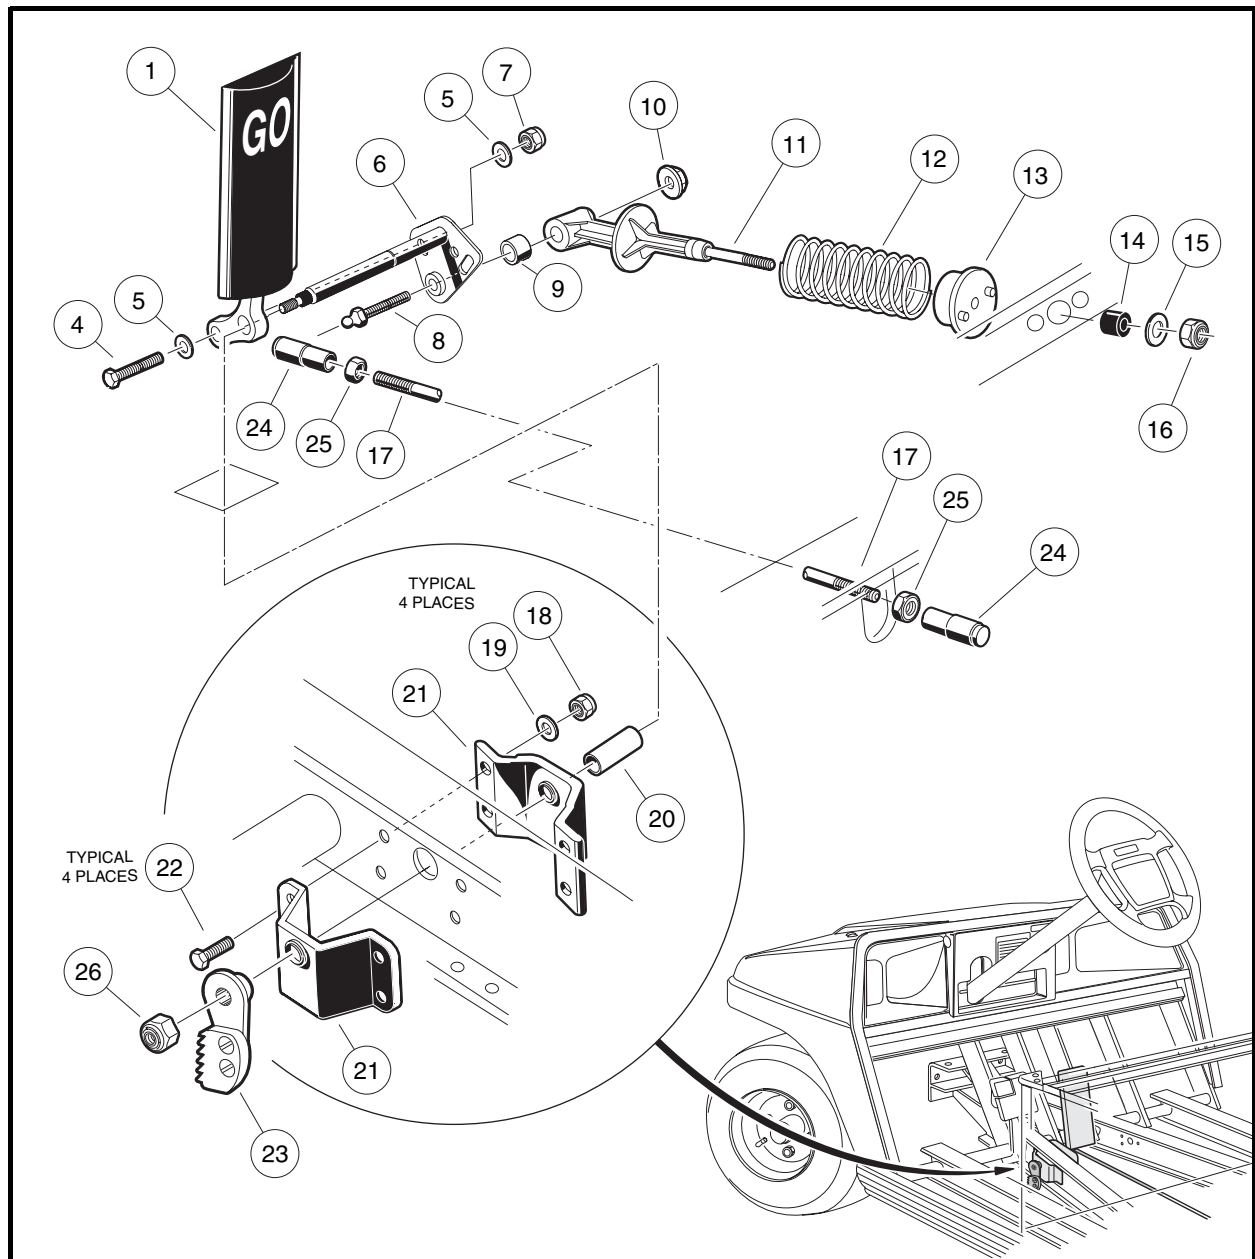
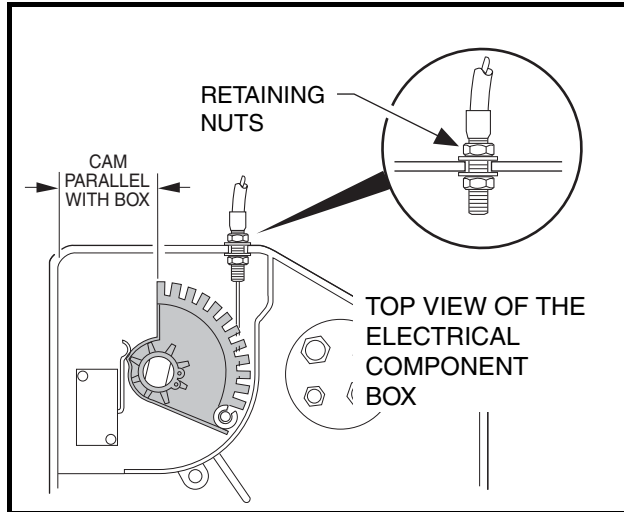

Figure 5-6 Accelerator Pedal – Gasoline Vehicles
Figure 5-19 Accelerator Cable
3. Disconnect the accelerator rod assembly (17, 25, and 24) (**Figure 5-6, Page 5-7**) at the front and rear ball studs and remove it from the vehicle.
4. Use a 9/16-inch socket and 9/16-inch wrench to remove the nut (7), two washers (5), and bolt (4) securing the accelerator pedal (1) to the pivot rod (6).
5. Remove the nut (10) and ball stud (8) from the accelerator pivot rod assembly (6).
6. Slide the spring retainer (11) off of the accelerator pivot rod.
7. Inspect the pivot support bearing (9) for wear and replace if necessary.
8. Use a marker to mark the position of the park brake ratchet (23) on the accelerator pivot rod (6) (**Figure 5-6, Page 5-7**). See following **NOTE**.
9. Remove the lock nut (26) from the accelerator pivot rod.
10. Press the brake pedal slightly and slide the park brake ratchet (23) toward the end of the accelerator pivot rod. Rotate the ratchet and remove it from the pivot rod.
11. Remove the pivot rod (6) and spacer (20) from the accelerator pivot rod supports (21) (**Figure 5-6, Page 5-7**).
12. Inspect the accelerator pivot rod supports (21) for wear and damage and replace if necessary. If the pivot rod supports do not require replacement, loosen, but do not remove, the four bolts (22) and lock nuts (18) to make installation of the pivot rod easier.
13. Remove the accelerator pedal (1) from the vehicle.
1. If the accelerator pivot rod supports were replaced, position the supports (21) on the vehicle frame and install the four bolts (22), flat washers (19), and lock nuts (18). Finger-tighten nuts at this time **(Figure 5-6, Page 5-7)**.
2. Insert the lower end of the accelerator pedal (1) through the floorboard and install the accelerator pivot rod (6) through the uppermost hole in the pedal.
3. Install the plastic spacer (20) on the pivot rod (6).
5. Tighten the four bolts (22) attaching the pivot rod supports to the frame to 75 in-lb (8.5 N·m).
6. Install the bolt (4), two washers (5), and a new lock nut (7) through the lower hole in the pedal and through the pivot rod. Finger-tighten nut at this time.
7. Install the ball stud (8) through the pivot rod. Install the spring retainer (11) onto the ball stud. Secure these parts with the nut (10) **(Figure 5-6, Page 5-7)**. Tighten the nut to 50 in-lb (5.7 N·m).
11. Install the nylon lock nut (26) on the pivot rod and tighten the nut to 18 ft-lb (24 N·m) **(Figure 5-6, Page 5-7)**.
12. Install the accelerator rod assembly (17, 25, and 24) **(Figure 5-6, Page 5-7)**.
- 5.2. Loosen the jam nuts (25) and disconnect the accelerator rod (17) at the accelerator pedal (**Figure 5-6, Page 5-7**). Adjust the length of the rod so the indicated cam edge is parallel with the edge of the electrical component box as shown (**Figure 5-19, Page 5-15**). **See following CAUTION.**